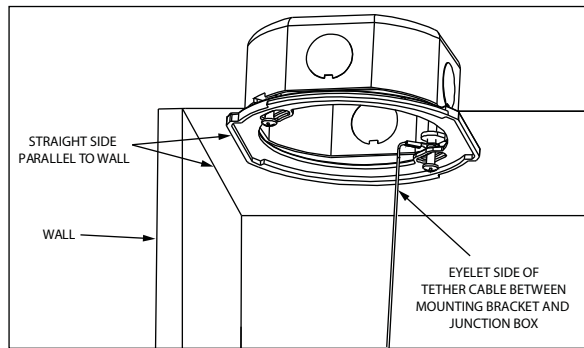

Figure 2
2. Hold Mounting Bracket (4) up to junction box (1) with flange facing down. Align straight side of the Mounting Bracket parallel to nearest wall. Attach eyelet side of the Tether Cable (2) between Junction Box and Mounting Bracket making sure Tether Cable is coming out from center of the Mounting Bracket and install Screws (5) through slots into J-Box. See Fig. 2.